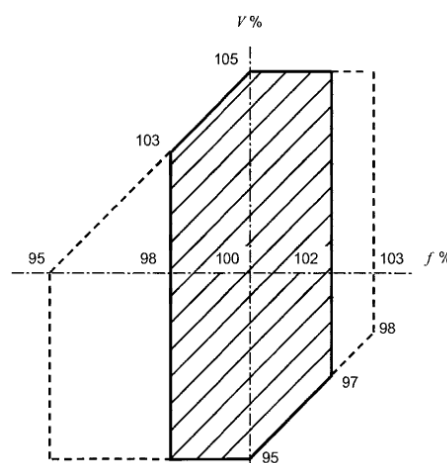

Figure 2.1: Voltage and frequency variation limits (IEC60034-3)
- As defined by the shadowed area in Figure 2.1, the generator must be able to continuously supply its rated power, operating at its rated power factor with a variation of $\pm 5\%$ in the voltage and $\pm 2\%$ in the frequency. As the operating point moves away from the rated values of frequency and voltage, the temperature in the generator windings may rise progressively;
- As defined by the external limit in Figure 2.1, the generator must also be able to continuously supply its rated power, operating at its rated power factor with a variation of $\pm 5\%$ in the voltage and +3% and -5% in the frequency. However, in this case the temperature rise will be even higher than in the previous case. Thus, in order to minimize the reduction of the generator lifespan because of the temperature effects, the extent and frequency of the operation out of the shadowed area must be limited. The power of the generator must be reduced or another corrective action must be taken.